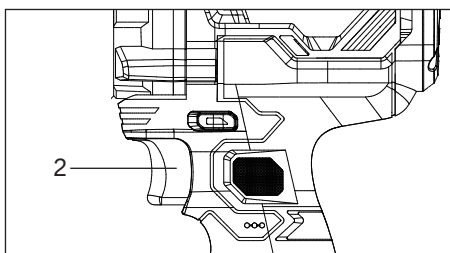

FIG. 6
1. To start the impact wrench, gently squeeze the trigger switch (2) (Fig. 6).